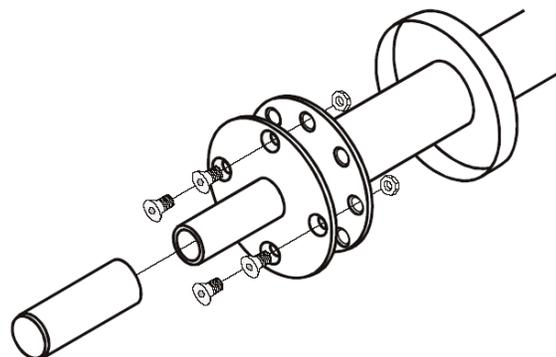

Figure1: Attaching REO Kit to Vogue Post.
4) Align the holes on the post-base flange with those of the REO Kit. Insert the bolts from underneath the REO Kit and tighten the bolts using the 9/16" socket and Phillips Head screwdriver (See Figure 1).